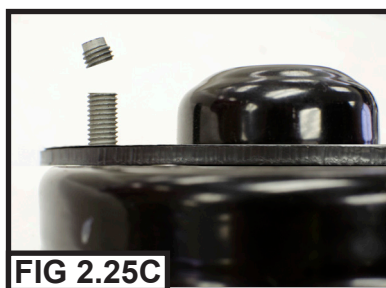

FIG 2.25C
- 12-D. Stud Trimmed to height. (FIG 2.25C)